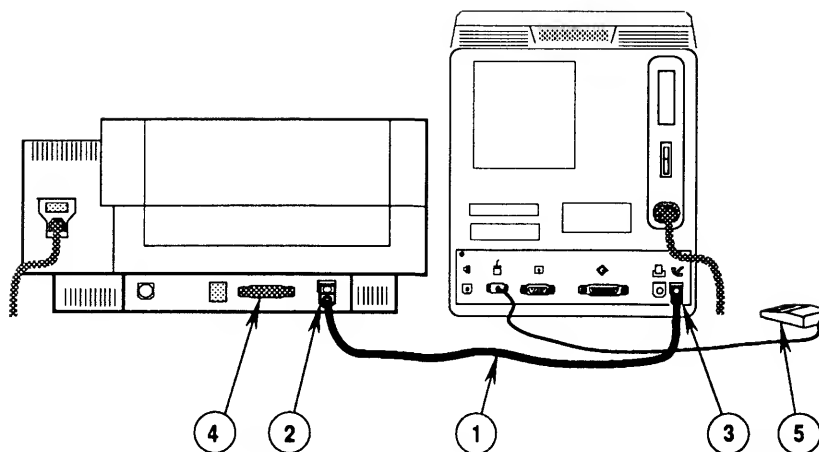

FIGURE 1
4. Connect one end of the serial port cable (Figure 1, #1) to the LocalTalk port (Figure 1, #2) of the LaserWriter II (UUT).
5. Connect the other end of the serial port cable to the modem port (Figure 1, #3) of the Macintosh test station.
6. Install the yellow LaserWriter II Test Connector on the 25-pin serial port of the LaserWriter II (Figure 1, #4).
7. Connect a mouse (Figure 1, #5) (and keyboard, if desired) to the Macintosh test station.